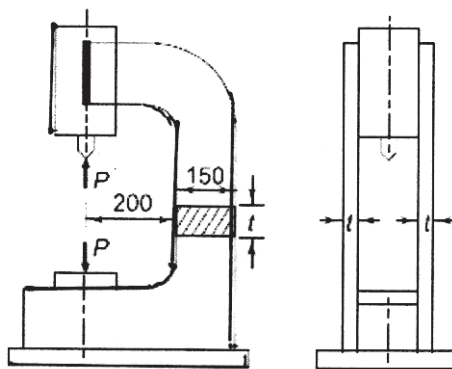

Figure 1.
- b) The frame of a hydraulic press consisting of two identical steel plates is shown in Fig.1. The maximum force P acting on the frame is 20 kN. The plates are made of steel 45C8 with tensile yield strength of 380 N/mm^2 . The factor of safety is 2.5. Determine plate thickness. **[6]**